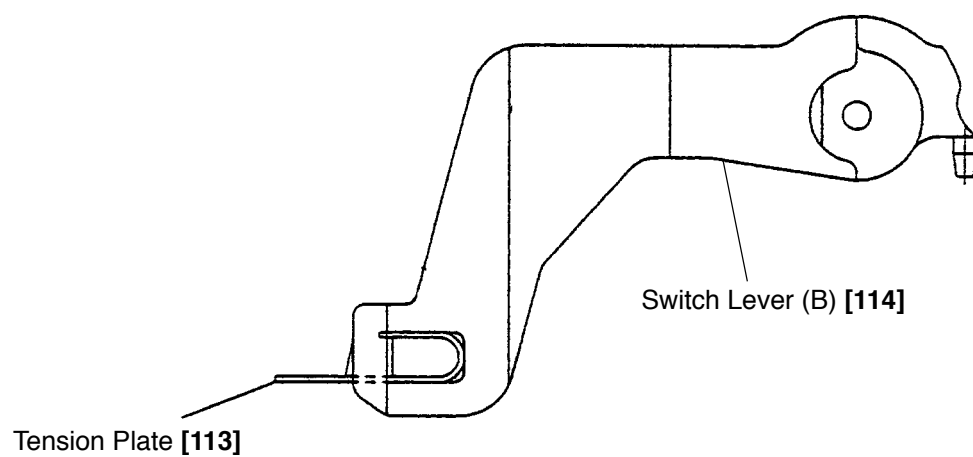

Fig. 59
- Be careful of the mounting direction of the Tension Plate [113] (Fig. 59).